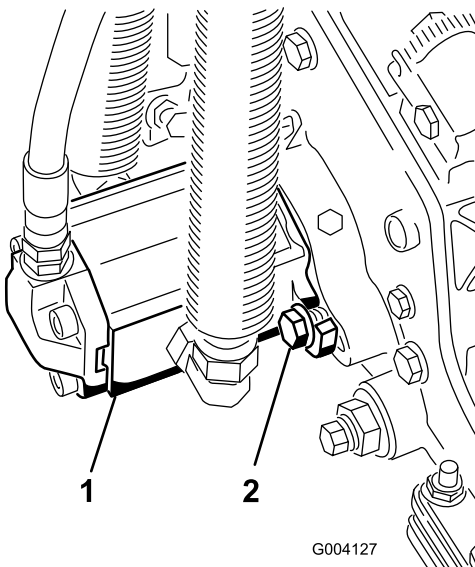

Figure 20
10. Install the motor by rotating it clockwise so that the motor flanges clear the cap screws (Figure 20). Rotate the motor counterclockwise until the flanges encircle the cap screws then tighten the cap screws